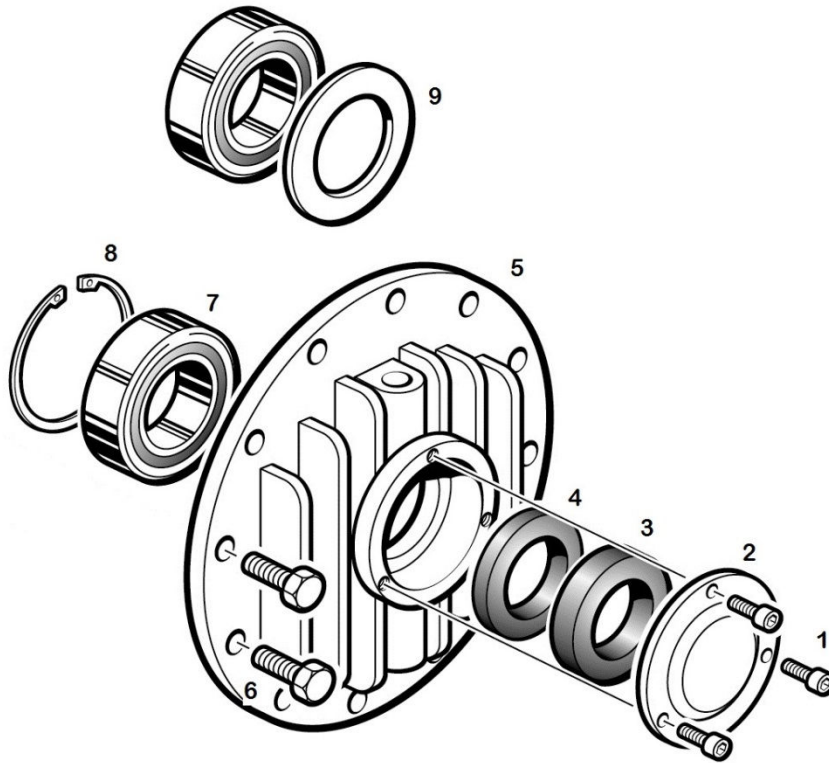

Figure 1
Remove end plate cover screws (1) remove end plate cover (2). See figure 1
The original Maxivac 5 pumps to be manufactured (having 6 character serial numbers e.g. 700300) used shims between the end plate and the bearing (see figure 1 item 9).
NOTE – Shims are fitted between the bearing and its housing in the end plate (see figure 1 Upper part)